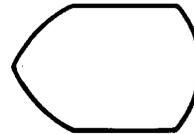

Fig. 7—Display Symbol
2.07 *The display symbol* (Fig. 7) represents an input/output function in which the information is displayed for human use at the time of processing, by means of on-line indicators, video devices, console printers, plotters, and so forth.